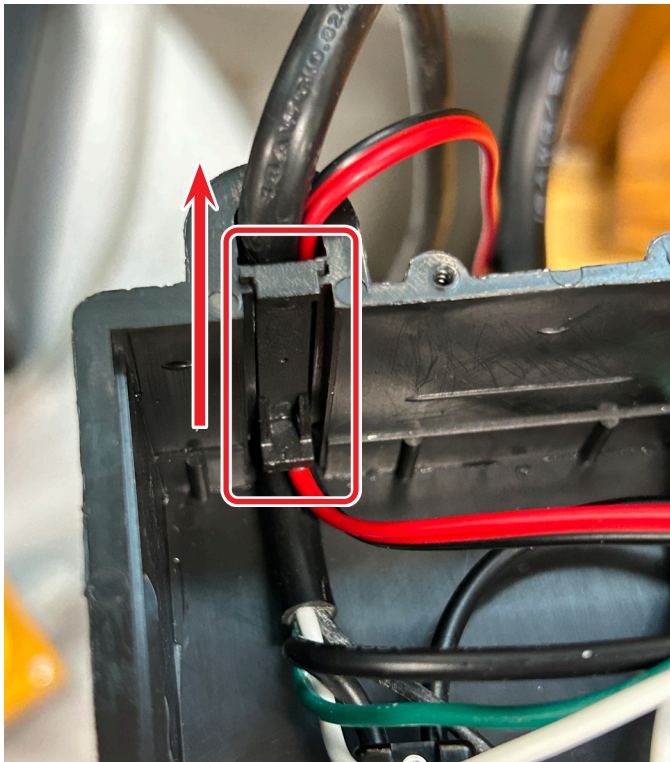

FIGURE 9 —The cord keeper is indicated by the red rectangle.
- G. The speed control that we used for these instructional pictures already had the red and black two-wire installed. What you will need to do is remove the cord keeper from the housing by pulling it up (see Figure 9).